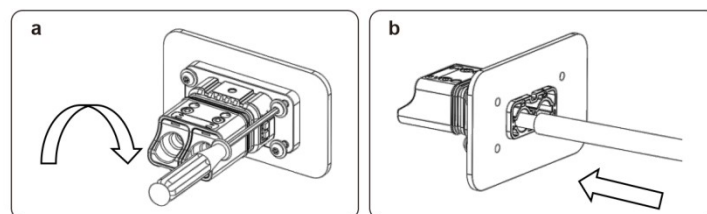

Fig.4-23 Locking Power Terminal
Step3 : Connect the cables tied inside the cabinet to the battery pack as shown in Fig.4-23. The cables need to be installed in place, and a “click” is heard when they are in place.